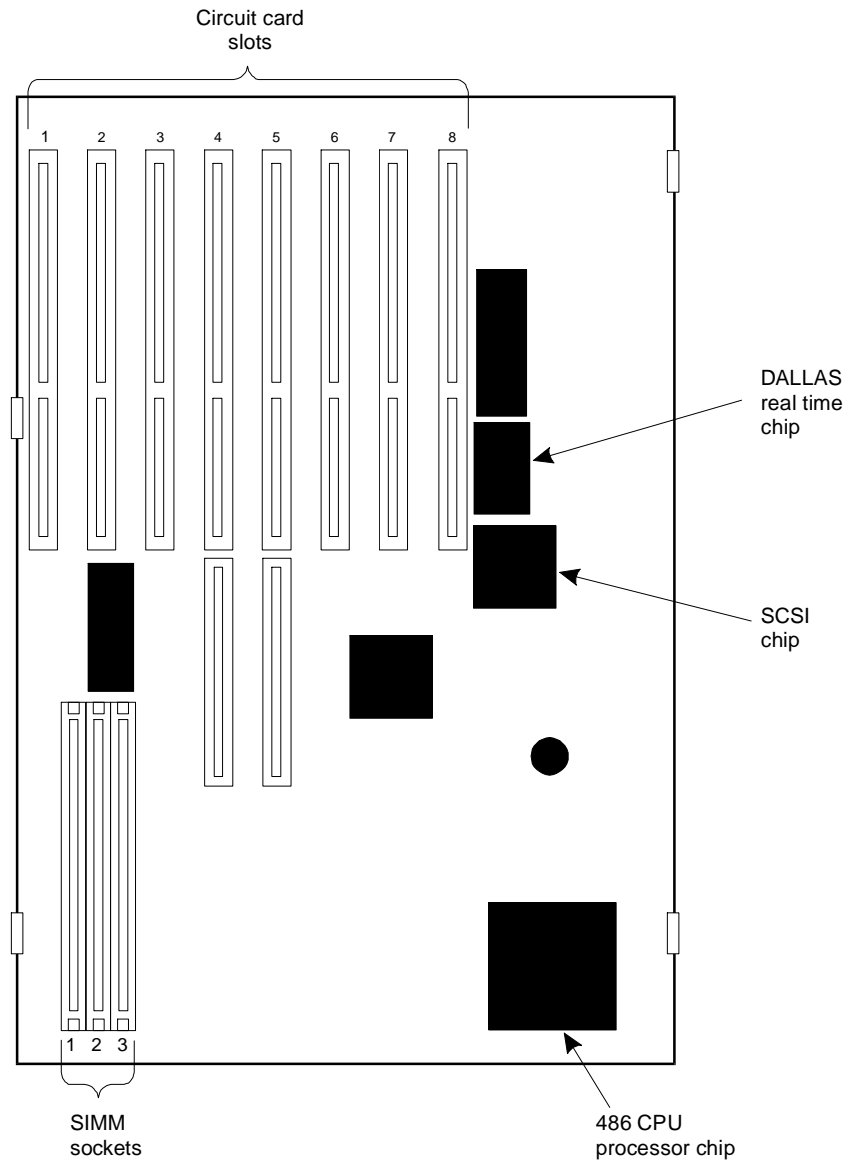

Figure C-1. SIMM Socket Location on System Board
7. Locate the 16 MB or 4 MB SIMM. See Figure C-1.
8. Locate the SIMM in the left, front area of the unit. See Figure C-1.